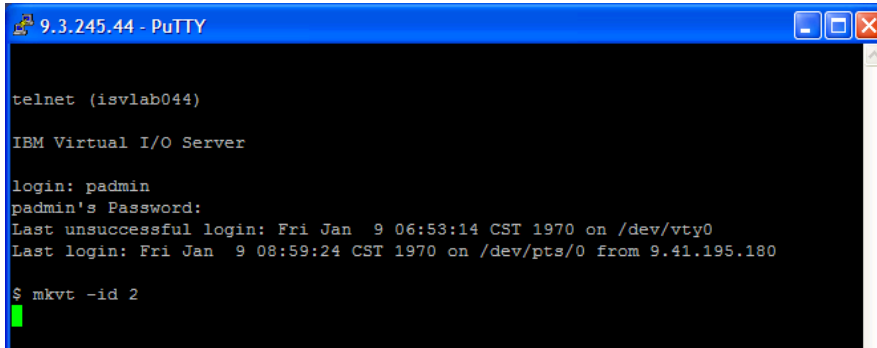

Figure 63. Opening a virtual terminal
- Use the AIX command listed below to open a virtual terminal for the lpar1_aix partition (see Figure 63).